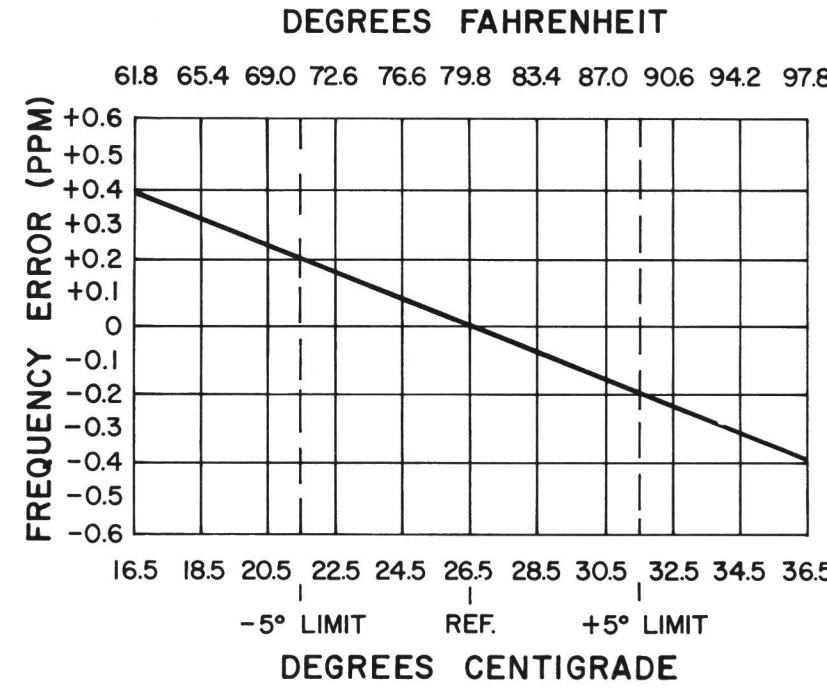

Figure 7 - Frequency Characteristics Vs. Temperature
- 2. Maintain the radio at 26.5°C (±10°C) and offset the oscillator, as a function of actual temperature, by the amount shown in Figure 7.
- B. To hold the setting error to ±0.35 PPM (which is considered reasonable for 2 PPM ICOMs): Maintain unit at 26.5°C (±5°C) and offset the oscillator as a function of actual temperature, by the amount shown in Figure 7.